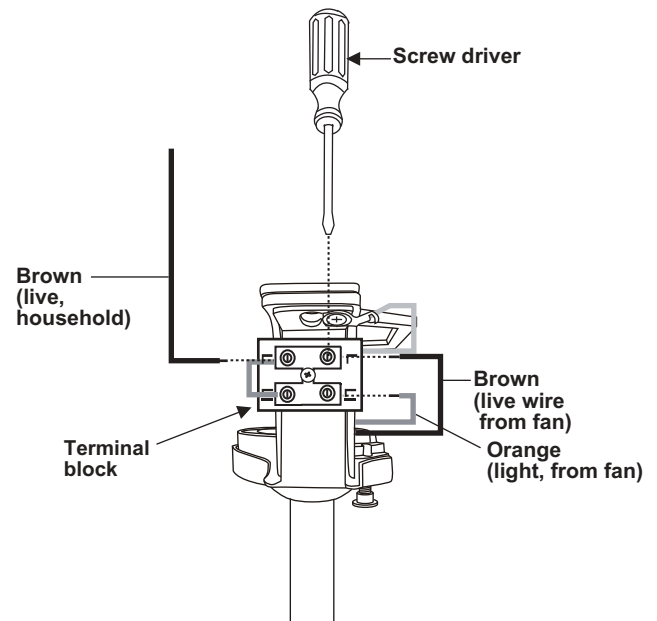

Figure 11
3. Connect the fan brown wire (Live) to the terminal block marked "L". Connect the household Live wire to another side of terminal block marked "L". Secure the wires with screwdriver. (Fig. 11 & 12)
4. Connect the fan orange wire to the terminal block marked "L1" (Light). Connect the other side of terminal block marked "L1" (light) to "L" with wire. Secure the wires with screwdriver. (Fig. 11 & 12)